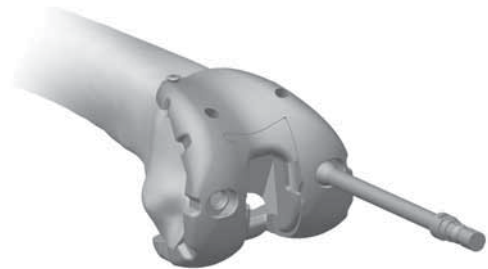
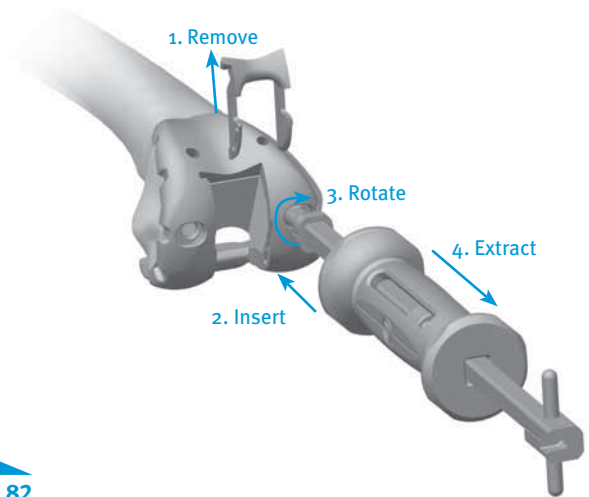

Fig. 81
Fig. 82
- Drill the pegs holes for the size 3 through 12 femoral implants through the PS Femoral Provisionals with the NexGen 6.4mm Patella/Femoral Drill (Fig. 81). The size 1 and 2 femoral components do not have pegs thus drilling is not required for those sizes. Remove the screw from the anterior flange in the PS Femoral Provisional. Remove the PS Box Provisional. The Slaphammer can be used to remove size 3 through 12 PS Femoral Provisionals (Fig. 82). Rotate the Slaphammer a ¼ turn outward. For size 1 and 2 PS Femoral Provisionals the Slaphammer can be inserted into the notch on the medial or lateral side of the provisional. Alternatively, the Femoral Inserter/Extractor can be re-attached to the PS Femoral Provisional to remove it from the bone. If necessary, insert the Slaphammer in the extraction hole of the Femoral Inserter/Extractor to facilitate removal.